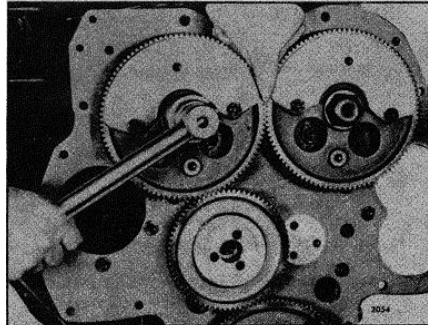

Figure 1. Removing or Installing Nut on Camshaft or Balance Shaft
7. Wedge a clean rag between the gears as shown in Fig. 1; then, remove the nuts from each end of both shafts with a socket wrench.